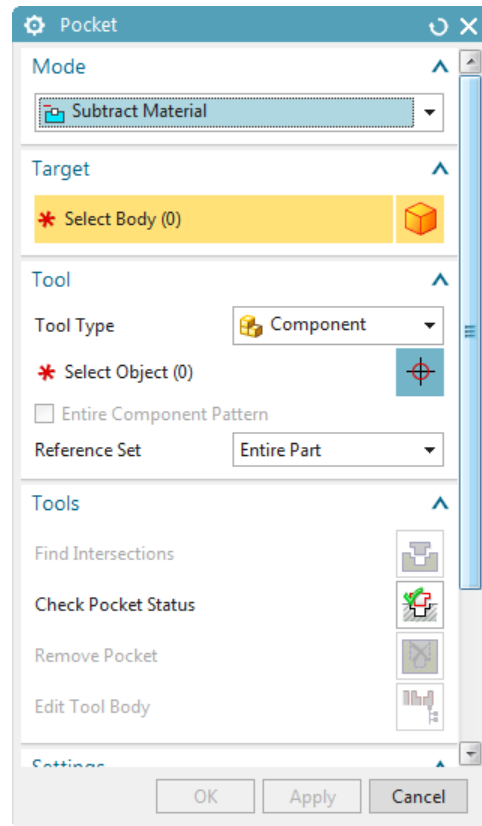

Figure 16-125 The Pocket dialog box
1. Choose the **Pocket** tool from the **Main** gallery of the **Mold Wizard** tab; the **Pocket** dialog box is displayed, refer to Figure 16-125. Also, you are prompted to select the target bodies. Select the target bodies from the mold assembly.